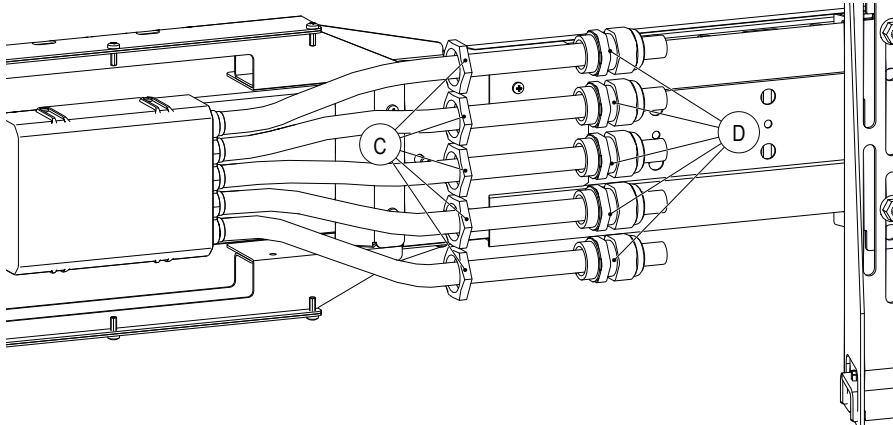

Fig. 77: Slide lock nuts (C) and screw connections (D) onto connecting cables
3. Loosen the lock nuts (C) from the screw connections (D) and slide both onto the connecting cables in such a way that there is still space for the strain relief plate (see Fig. 77).